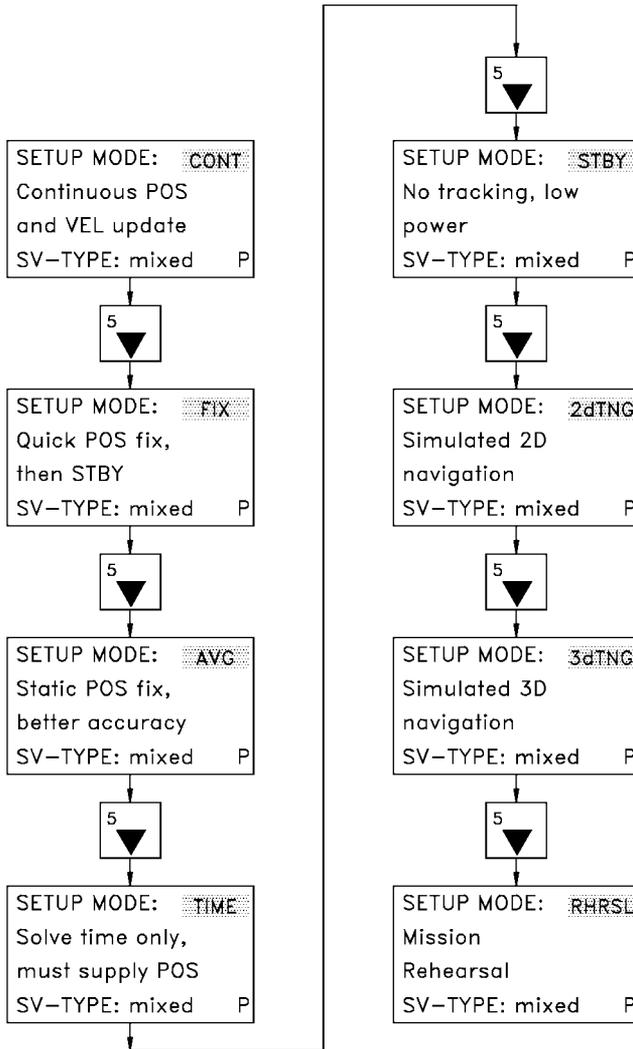

Figure 3-5 Operating Mode Displays.
3.5.3.1 Operating Modes. The following paragraphs briefly describe each of the user-selectable operating modes. The operating mode displays are shown in Figure 3-5.